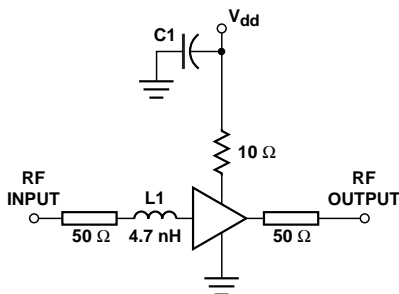

Figure 10. Test Circuit for 2 GHz.
3. Guaranteed specifications are 100% tested in the circuit in Figure 10 in the Applications Information section.
The circuit shown in Figure 10 is used for 100% RF testing of Noise Figure and Gain. The input of this circuit is fixed tuned for a conjugate power match (maximum power transfer, or, minimum Input VSWR) at 2 GHz. Tests in this circuit are used to guarantee the  $NF_{\text{test}}$  and  $G_{\text{test}}$  parameters shown in the Electrical Specifications table.
The test circuit in Figure 10 illustrates a suitable method for bringing bias into the MGA-87563. The bias connection must be designed so that it adequately bypasses the  $V_{\text{dd}}$  terminal while not inadvertently creating any resonances at frequencies where the MGA-87563 has gain.
The input of the MGA-87563 is partially matched internally to 50  $\Omega$ . The use of a simple input conjugate matching circuit (such as shown in Figure 10 for 2 GHz), will lower the noise figure considerably. A significant advantage of the MGA-87563’s design is that the impedance match for  $NF_0$  (minimum noise figure) is very close to a conjugate power match. This means that a very low noise figure can be realized simultaneously with a low input VSWR. The typical difference